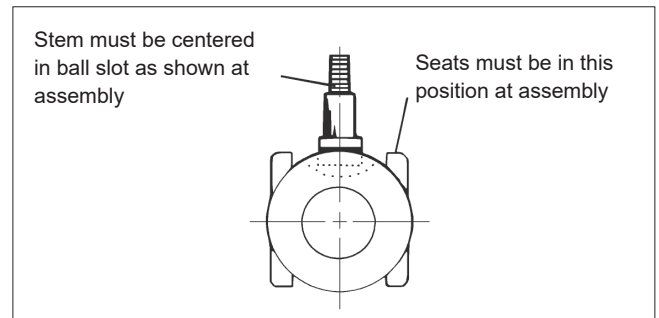
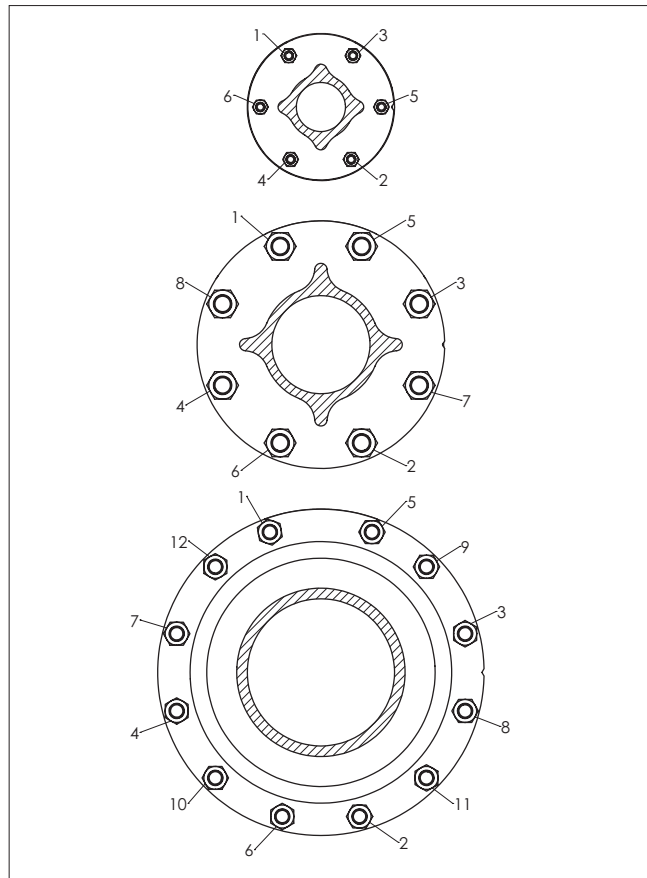

Figure 6. Proper Seat and Ball Orientation
Figure 10. Bolt Tightening Sequence
4. Carefully clean and polish the ball (3) sealing surface: It should be free of all scratches and grooves.
6. Place the body and body cap carefully on the pipeline flange, on a soft surface, taking care not to damage the raised face sealing surface. With the body cap side facing up, slide one valve seat (5) sideways into the body (1) to below the stem bore, and tilt it into place so that the proper surface (see **Figure 6**) will be adjacent to the ball (3), being careful not to cut or scratch the seat.
12. Insert internal grounding spring (71) into hole at the bottom of the stem (4). Insert the ball (3) rotating it onto the stem (4) in the closed position. If necessary, turn the stem blade to align with the ball slot. Make certain that the stem blade is in the middle of the ball slot; i.e. equal distance from the ends of the slot. Rotate the ball if necessary (see **Figure 6**).
13. Gently place the body seal (6) into the machined recess of the body (1).
14. Place the second seat (5) on top of the ball (3) with the proper surface (see **Figure 6**) adjacent to the ball.
15. Place the body cap (2) over body studs (32) being careful to properly orient body cap and body as originally assembled by matching orientation marks made prior to disassembly. Take care not to damage body seal (6) or seat (5) during this operation.
16. Lubricate the threads and face of nuts (33) with NeverSeez® or equivalent. Install nuts (33) on body studs (32) and tighten sequentially as shown in the diagram (**Figure 10**), to the recommended torques as shown in the torque chart (**Table 2**).
6. With the body cap side facing up, slide one valve seat (5) sideways into the body (1) to below the stem bore, and tilt it into place so that the proper surface (see **Figure 6**) will be adjacent to the ball (3), being careful not to cut or scratch the seat.
16. Place the stud nut (30) on each stud (29) and tighten nuts a few turns alternately so that the compression plate (20) remains parallel with the body bonnet. Do not fully torque down stud nuts (30) at this time.
17. Insert the *Emission-Pak* subassembly into the body, being careful not to damage the *Emission-Pak* housing seals. A lubricant, compatible with the flow media, **MUST** be applied to the stud (102) threads and the face of the nut (111).
19. Once metal to metal contact has been achieved, tighten the nuts (111) to the torque values in (**Table 5**). Apply the torque evenly in a crisscross pattern.
20. Place the valve in a vertical position, insert end up, on a clean soft surface such as a folded rag or a piece of cardboard. If the valve has grounded option, insert the bottom grounding spring (71) into the hole at the bottom of the stem (4). Insert the ball (3) rotating it onto the stem (4) in the closed position. If necessary, turn the stem blade to align with the ball slot. Make certain that the stem blade is in the middle of the ball slot; i.e. equal distance from the ends of the slot. Rotate the ball if necessary (see **Figure 6**).
- Place the body cap (2) over body studs (32) being careful to properly orient body cap and body as originally assembled by matching orientation marks made prior to disassembly. Take care not to damage body seal (6) or seat (5) during this operation.
- Lubricate the threads and face of nuts (33) with NeverSeez® or equivalent. Install nuts (33) on body studs (32) and tighten sequentially as shown in the diagram (**Figure 10**), to the recommended torques as shown in the torque chart (**Table 2**).